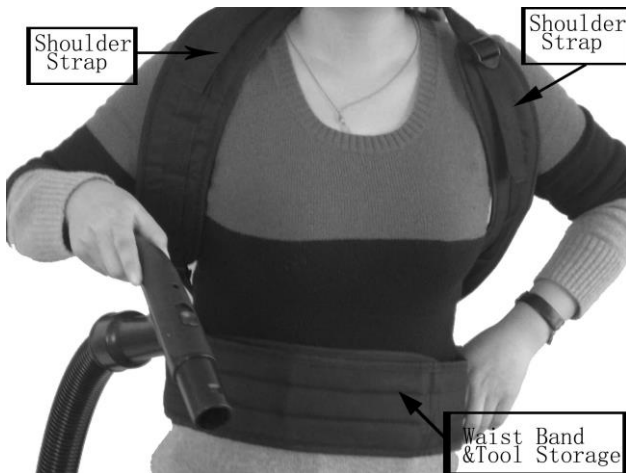

Fig. 11
3. Correctly place shoulder straps on each shoulder and secure the waist band with hook and loop strips. (Fig. 11)